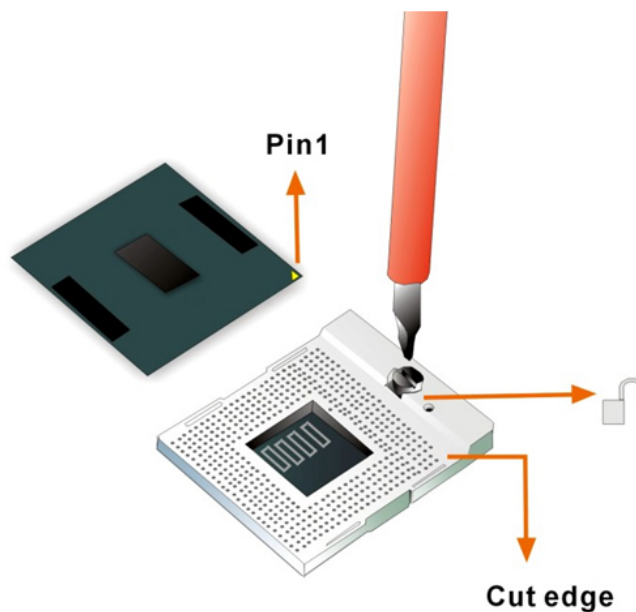

Figure 4-1: Unlocked Retention Screw
See Figure 4-1.
Step 4: **Correctly position the CPU.** Match the Pin 1 mark on the CPU with the marked corner on the CPU socket. See Figure 4-1.